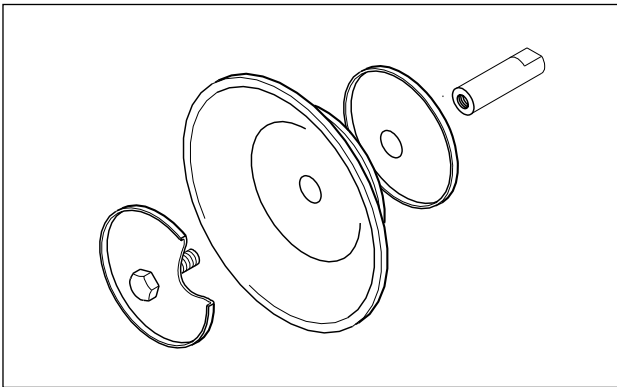

Fig. 13
- Pumps DL 40, 50 and 80 with PTFE diaphragms have internal diaphragm plates with bolted on shims to reduce and displace the stroke. For later changeover to PTFE diaphragm the corresponding plates must be used (Fig. 13).